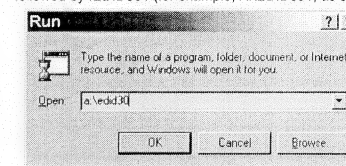

Fig. 5
3. At the submenu, type the letter of your computer's floppy disk drive followed by :EDID301 (for example, A:\EDID301, as shown in Fig. 5).